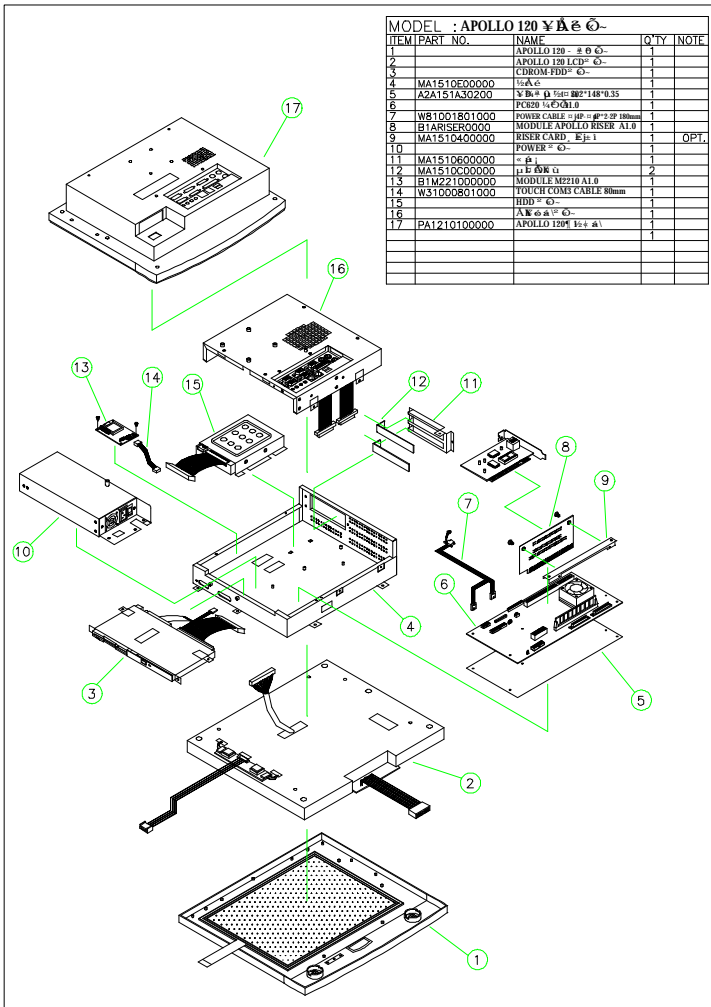
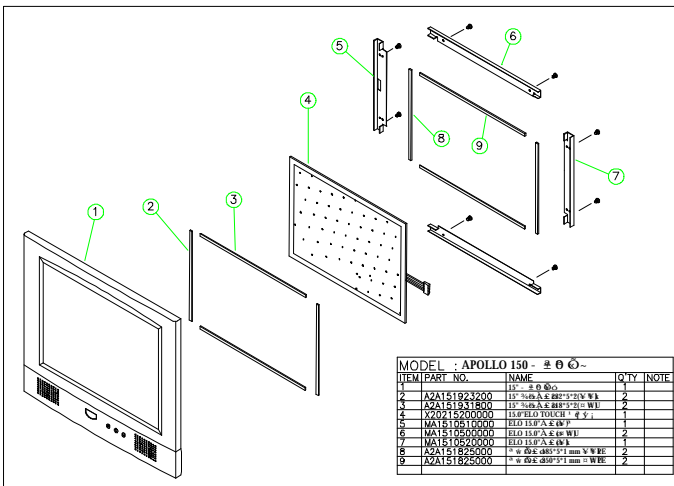

FIGURE 5-1: APOLLO 120 EXPLODED DIAGRAM
FIGURE 5-7: APOLLO 120 FRONT BEZEL ASSEMBLY
3. Tape the motherboard insulator (5) (Fig. 5-1 & 5-2 (5)) to the motherboard (6) first. The insulator is to separate the electronic components on the reverse side of the motherboard from the metal compartment to prevent short circuitry caused during system operation.
4. Fix the motherboard (6) to the chassis with 7 round-head anti-fallen 3*6 screws.
5. The IR/LED cable (Fig. 5-7 (7) & Fig. 5-8 (5)) has to go through the rectangle opening located at the bottom side of the chassis, then connected to motherboard's J7, the HDD LED & ACPI LED & SMI connector.
1. The touchscreen cable Fig. 5-1. (14) is a 10 pin to 10 pin flat cable. One end is connected to the touchscreen controller first.
4. Fix the touchscreen controller (13) to the bracket with 2 3*6 screws.